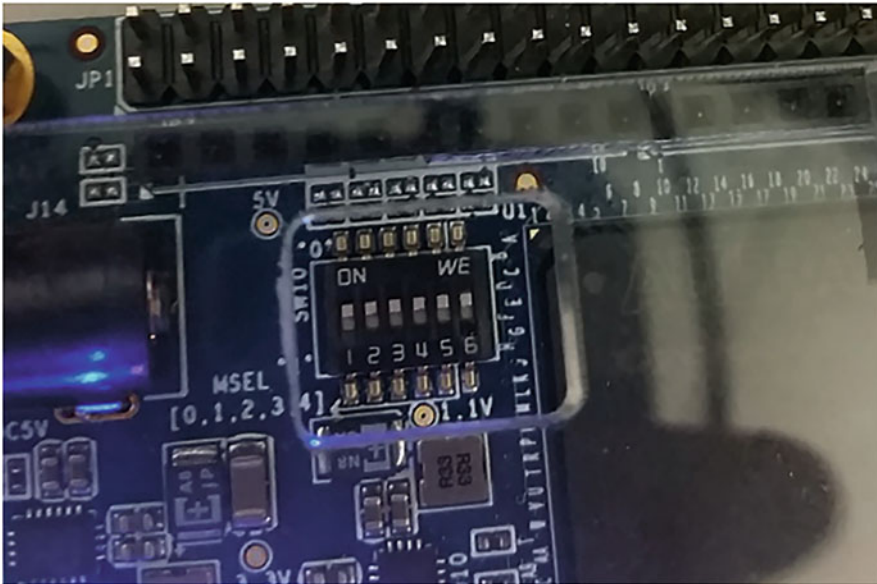

Fig. 4.7: The switch SW10 setting (FPPx16) used in the book when running Ubuntu on the DE10-Nano board. All the switches are in the “ON” position
Mode 2: FPPx16. This stands for Fast Passive Parallel x16 mode (no compression). **This is the mode we will use in this book for running embedded Linux (Ubuntu) on the DE10-Nano board.** In this mode, all the switches on SW10 need to be up in the zero (ON) state as shown in Fig. 4.7